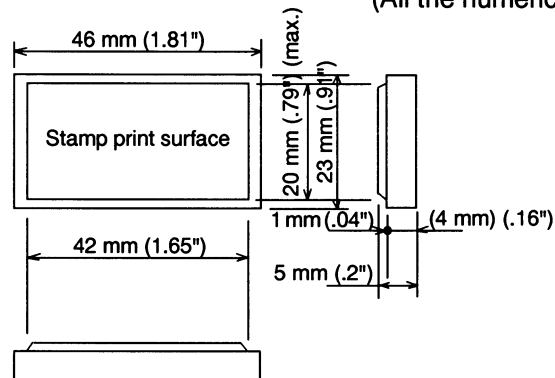

Figure 1.4.1 Stamp Overall Dimensions
- 4) Stamp overall dimensions: Refer to Figure 1.4.1.